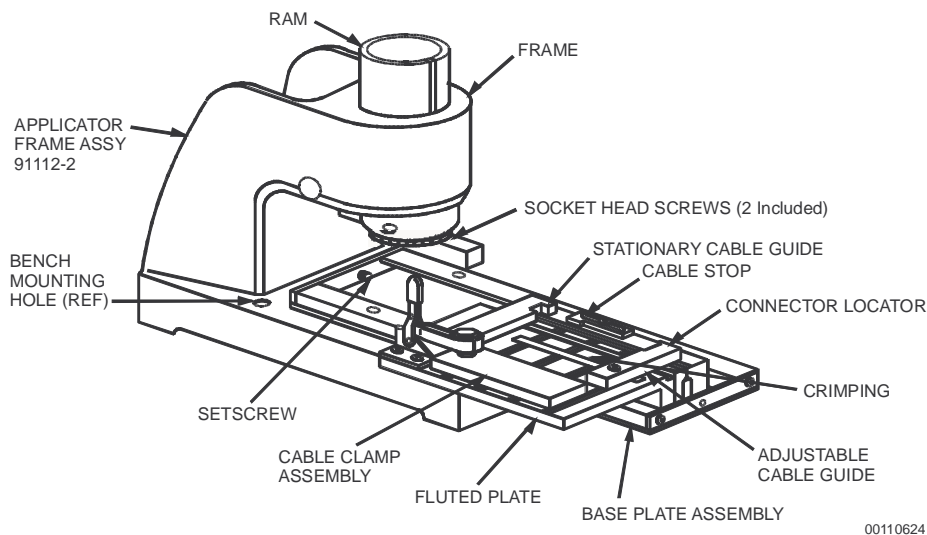

Figure 10 Amp Latch Manual Applicator
- g. Assembly instructions for AMP connectors using the AMP latch manual applicator. The AMP Latch Pneumatic Applicator (Figure 10) is designed to install flat cable in 10- through 60-position AMP connectors. The press ram is actuated by a foot pedal. The press ram remains in a loaded position as long as the foot pedal is depressed. The termination procedure for the flat cable is as follows:
- (1) Slide lower tooling away from press.